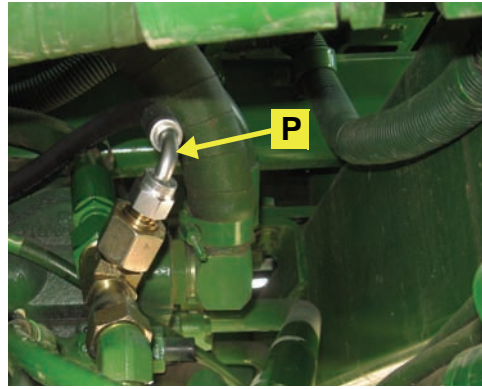
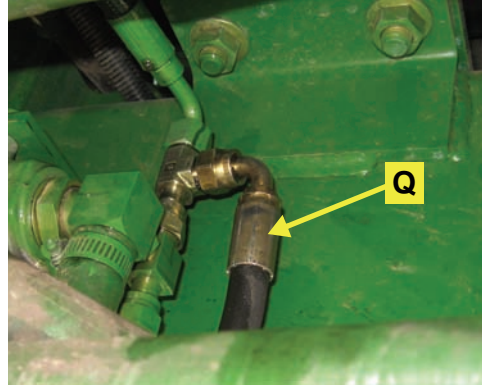
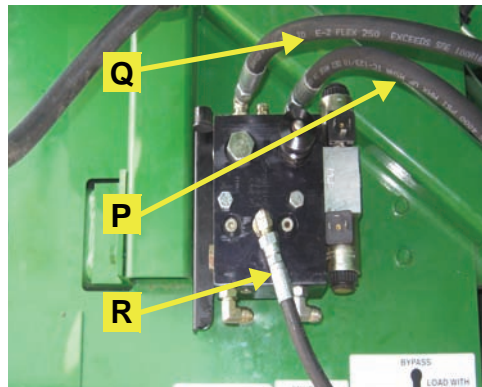

Figure 5a: Installed pressure hose.
Figure 5b: Installed tank hose
Figure 5d: Installed pressure, tank and load sense hoses at the automated steering block
- a. Route the pressure hose (**P**) from the run-tee installed at the hydraulic valve block to the port marked **P** on the Automated Steering Block. (Figure 5a & Figure 5d)
- b. Connect the tank hose (**Q**) between the **T** port of the Automated Steering Block and the run-tee installed near the hydraulic filter. Route the hose similar to the pressure hose. (Figure 5b & Figure 5d)